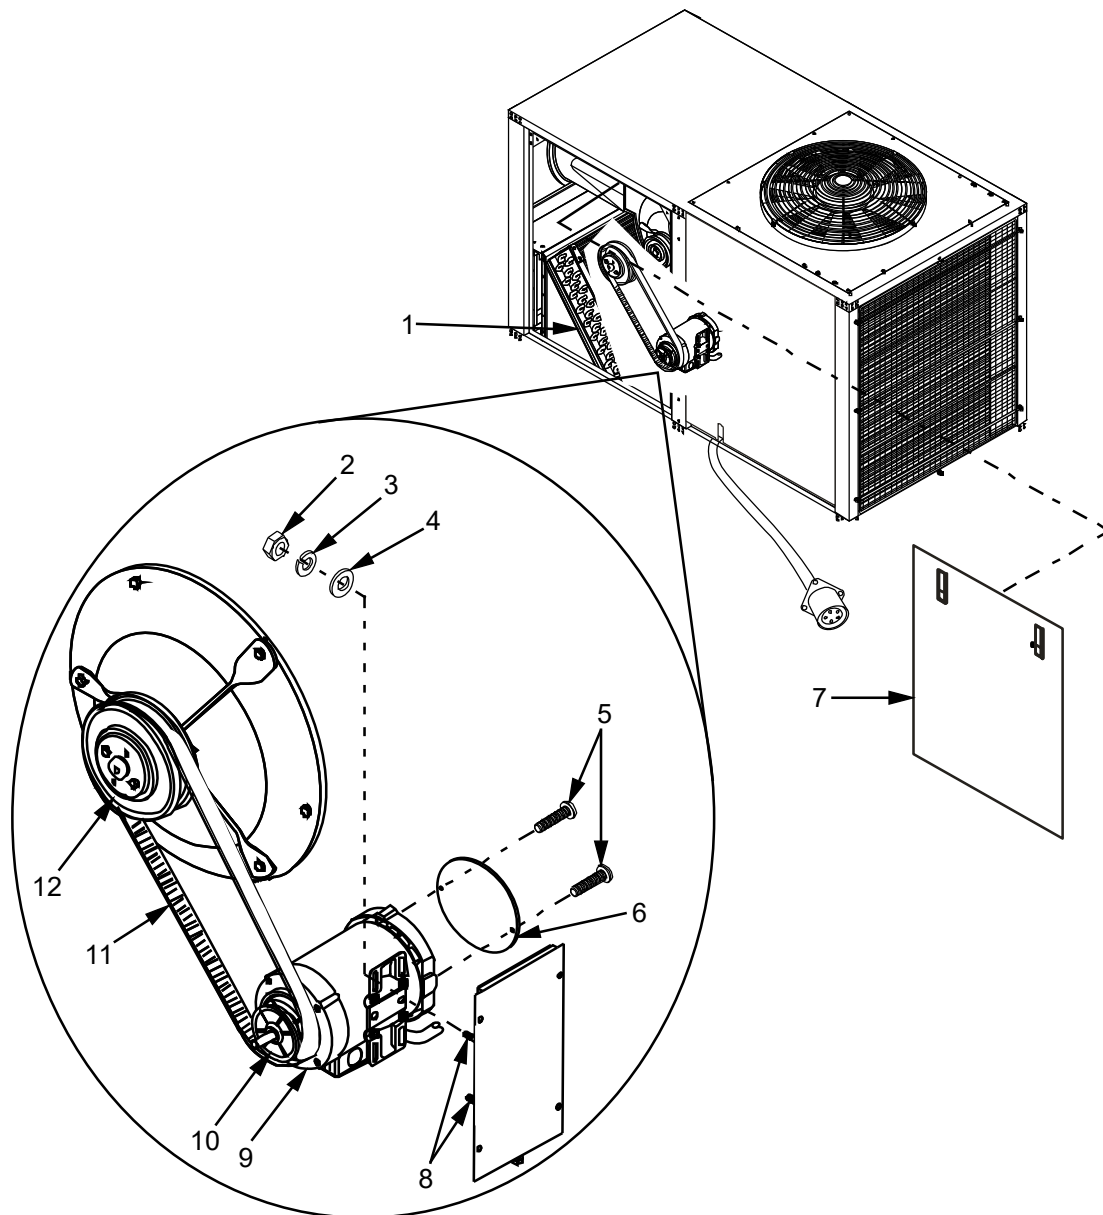

Figure 1. Evaporator Motor Replace.
2. Open rear evaporator chamber access panel (Figure 1, Item 7) on ECU.
3. Loosen but do not remove four mounting nuts (Figure 1, Item 2), lock washers (Figure 1, Item 3), and flat washers (Figure 1, Item 4) on evaporator fan motor mounting studs (Figure 1, Item 8).
4. Push the evaporator fan motor (Figure 1, Item 9) upwards along the mounting studs (Figure 1, Item 8) to decrease tension on belt (Figure 1, Item 11).
5. Slide belt (Figure 1, Item 11) off of evaporator motor pulley (Figure 1, Item 10) and blower pulley (Figure 1, Item 12).
6. Finish removing four nuts (Figure 1, Item 2), lock washers (Figure 1, Item 3), and flat washers (Figure 1, Item 4).
7. Remove evaporator motor (Figure 1, Item 9) from studs (Figure 1, Item 8) and turn to gain access to electrical connections.
8. Remove and retain two screws (Figure 1, Item 5) and cover (Figure 1, Item 6) on evaporator motor (Figure 1, Item 9) mark and disconnect electrical wiring.
9. Remove evaporator motor (Figure 1, Item 9) from ECU and set aside.
1. Remove and retain two screws (Figure 1, Item 5) and cover (Figure 1, Item 6) on evaporator motor (Figure 1, Item 9) and connect electrical wiring (see Table 1). Install cover and secure using two screws.
2. Place evaporator motor (Figure 1, Item 9) onto mounting studs (Figure 1, Item 8) and loosely install four nuts (Figure 1, Item 2), lock washers (Figure 1, Item 3), and flat washers (Figure 1, Item 4).
3. Slide belt (Figure 1, Item 11) over evaporator motor pulley (Figure 1, Item 10) and blower pulley (Figure 1, Item 12).
When performing the following steps, deflection of belt (Figure 1, Item 11) should not be greater than one inch.
4. Move evaporator fan motor (Figure 1, Item 9) to make proper tension adjustment to belt (Figure 1, Item 11).
- Down to increase the tension on the evaporator motor belt (Figure 1, Item 11).
- Up to decrease tension on the evaporator motor belt (Figure 1, Item 11).
5. Tighten four mounting nuts (Figure 1, Item 2), lock washers (Figure 1, Item 3), and flat washers (Figure 1, Item 4) on the evaporator fan motor mounting studs (Figure 1, Item 8).
6. Verify tension of evaporator motor belt (Figure 1, Item 11) as described in this WP.
7. Replace rear evaporator chamber access panel (Figure 1, Item 7).
2. Remove rear evaporator chamber access panel (Figure 1, Item 7) and set aside.